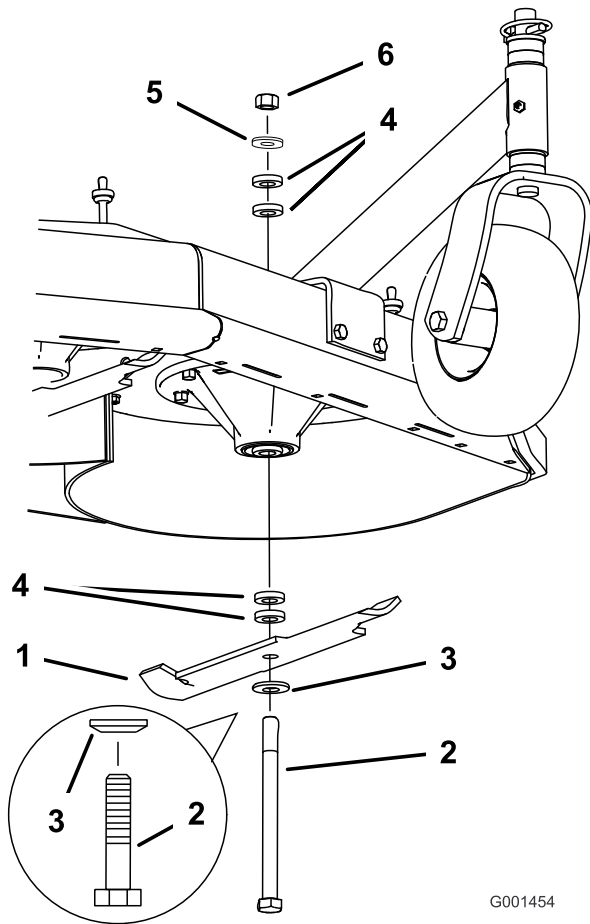

Figure 56
2. Remove the nut, blade bolt, curved washer, blade, spacers, and thin washer from the spindle (Figure 56).
1. Install the bolt, curved washer, and blade. Select the proper number of spacer(s) for the height-of- cut, and slide the bolt into the spindle (Figure 56).
2. Install the remaining spacer(s) and secure them with a thin washer and a nut (Figure 56).